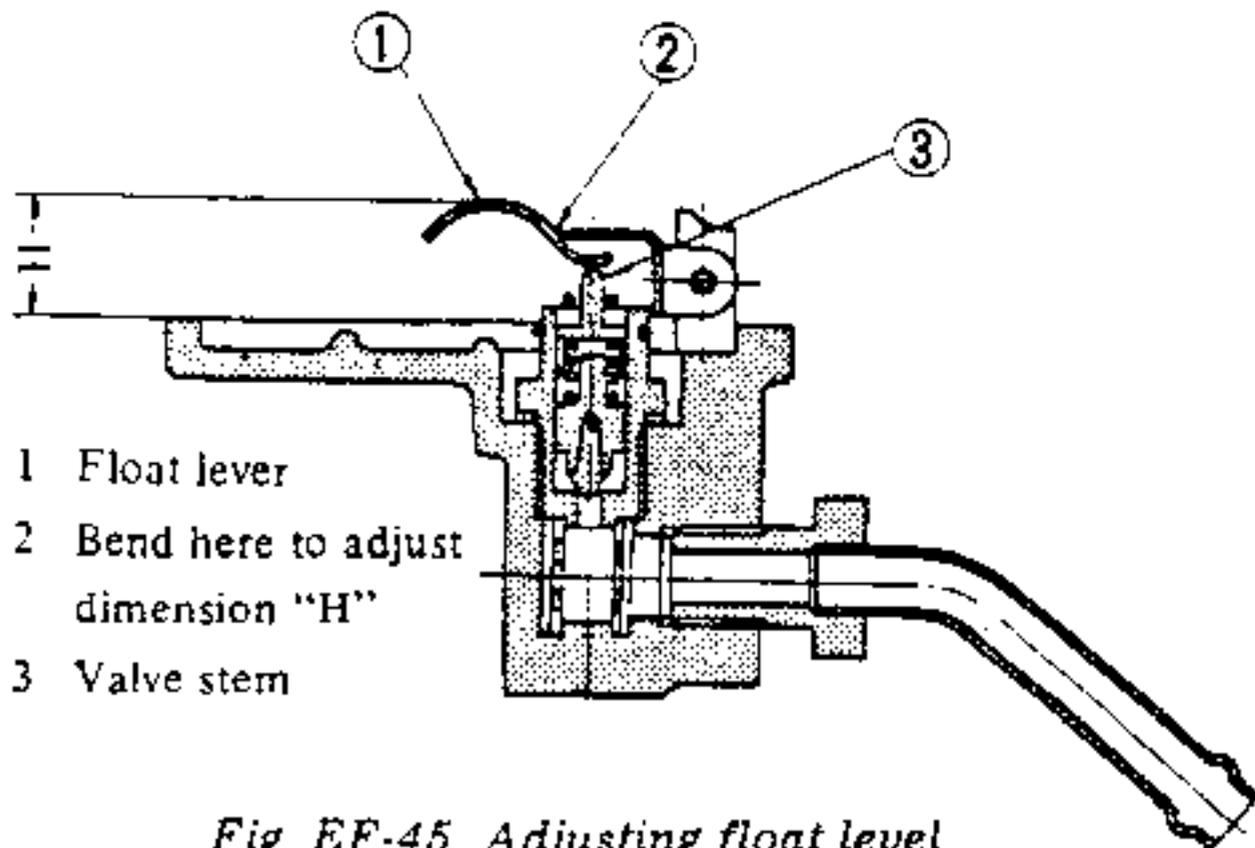

Fig. EF-45 Adjusting float level
4. Adjustment is correct if dimension "H," Figure EF-45, is 11 to 12 mm (0.4331 to 0.4724 in). Adjustment can be made by bending float lever as required.